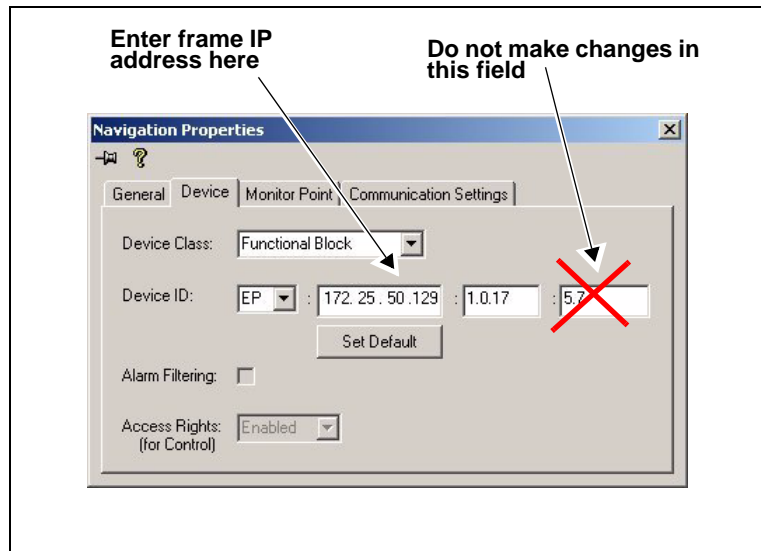

Figure 2-6. Navigation Properties Box
- On the **Device** tab of the **Navigation Properties** box, enter the IP address of the frame that holds the module. (See Figure 2-6.)